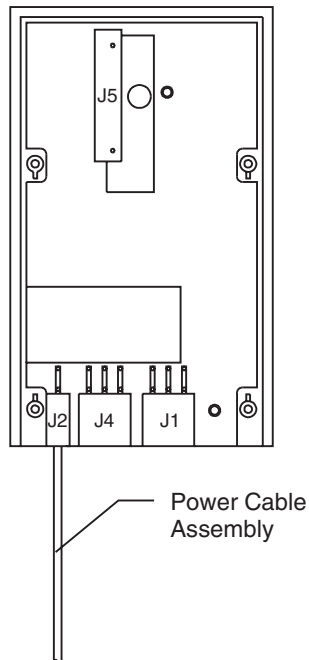

Figure 4-7: Power Cable Assembly Connection to 210E
2. Plug the other end of the Power Cable Assembly into the 210E at J2 (see Figure 4-7).